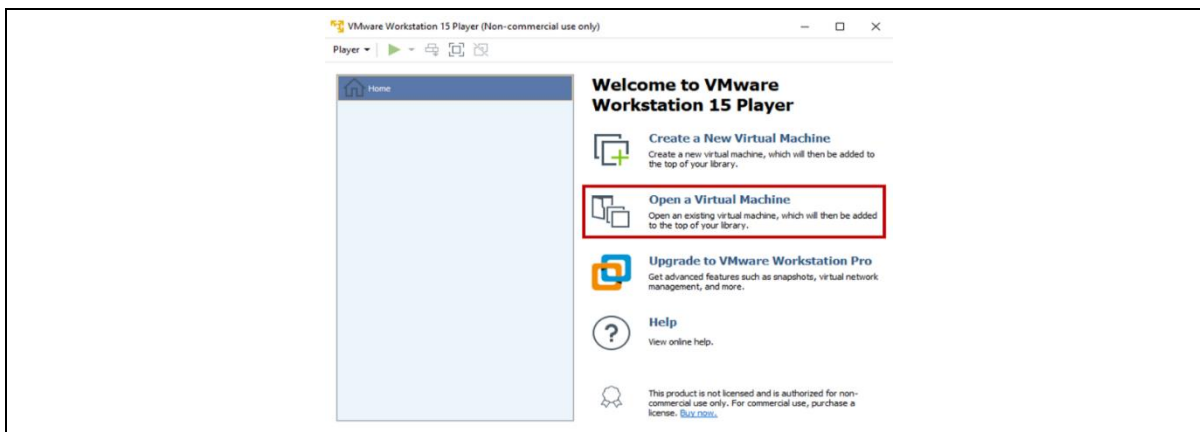
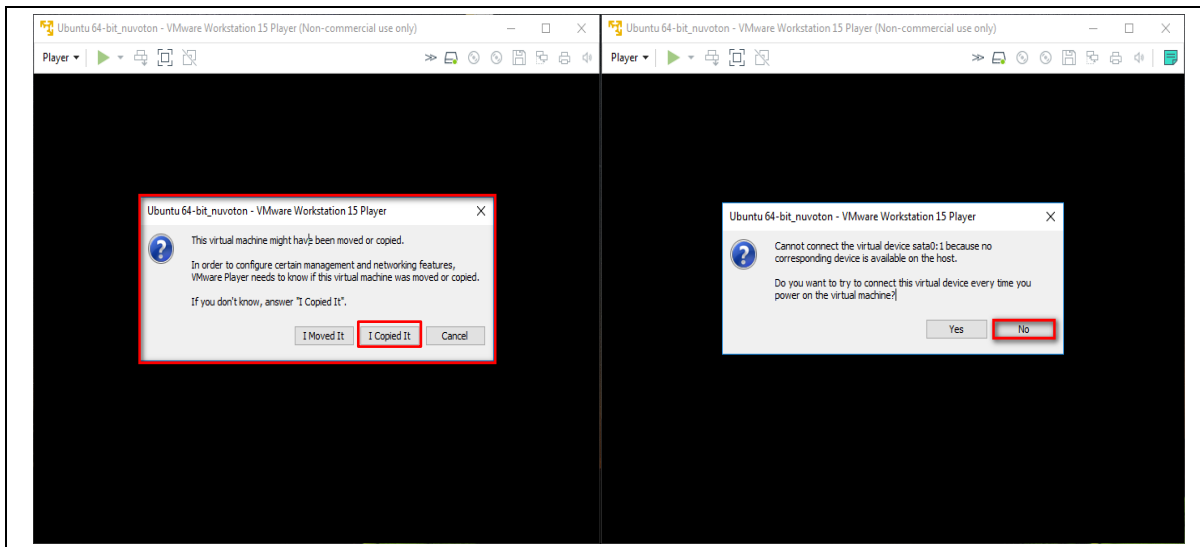

Figure 2-11 Open the Linux Environment (1)
Figure 2-14 Open the Linux Environment (4)
Decompress **Nuvoton - Ubuntu 18.04.zip** to the target folder, then refer to Figure 2-11 to Figure 2-14 and the procedure below to open Linux environment image.
4. You will see messages when opening a new image. Click the options such as Figure 2-14.